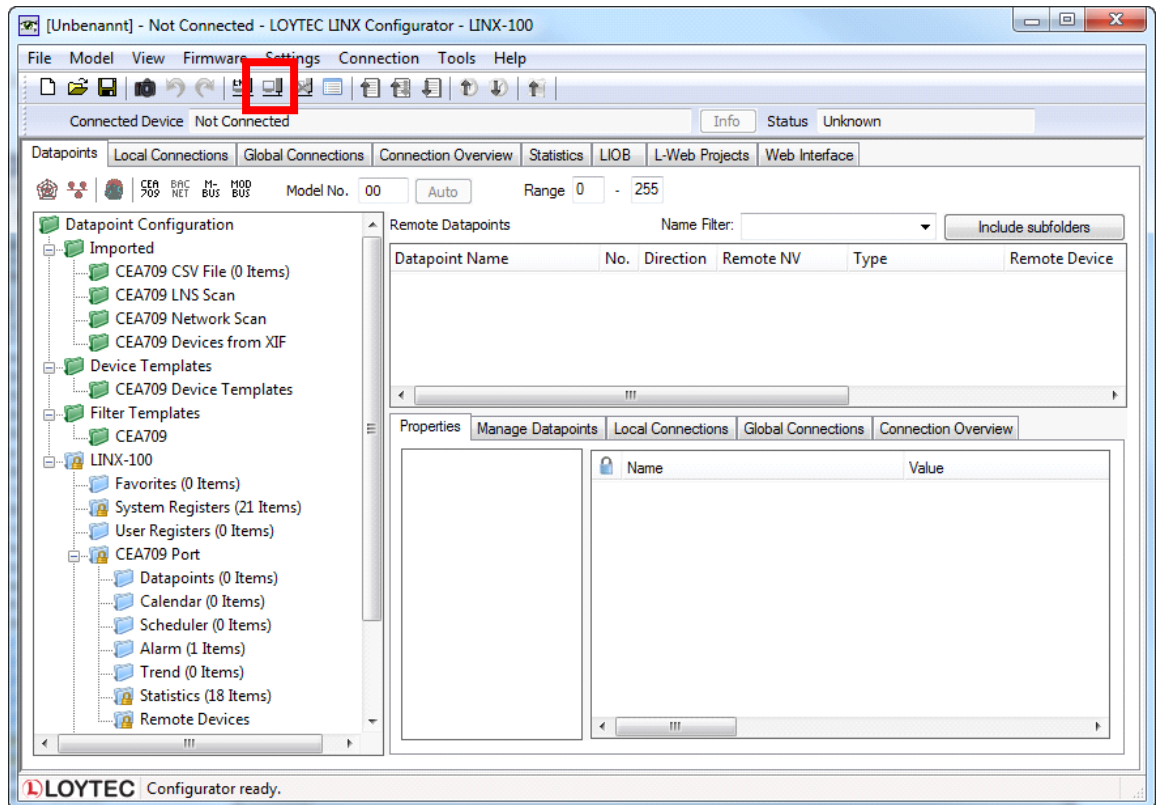

Figure 15: L-INX Configurator main screen.
1. Start the L-INX Configurator software by selecting Windows **Start** → **Programs** → **LOYTEC LINX Configurator** → **LOYTEC LINX Configurator**. The application starts up and displays the data point manager screen as shown in Figure 15.
2. When the device is online, connect to the device by clicking on the **Connect to device** speed button as indicated by the red rectangle in Figure 15.